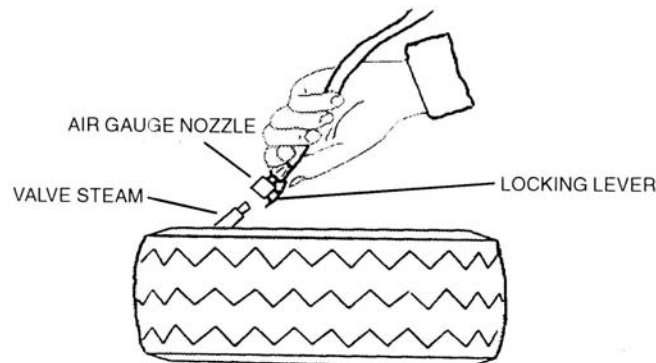

Fig. 8
- 4) Remember to inflate the tire with brief jets of air, checking the air pressure frequently. Once the proper air pressure has been reached, disconnect the nozzle from the valve stem and screw a valve cap onto the stem. (Fig.8)